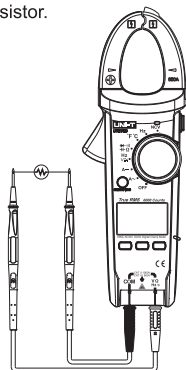

Fig. 7
6.Measurement of resistance (shown as Fig. 7)